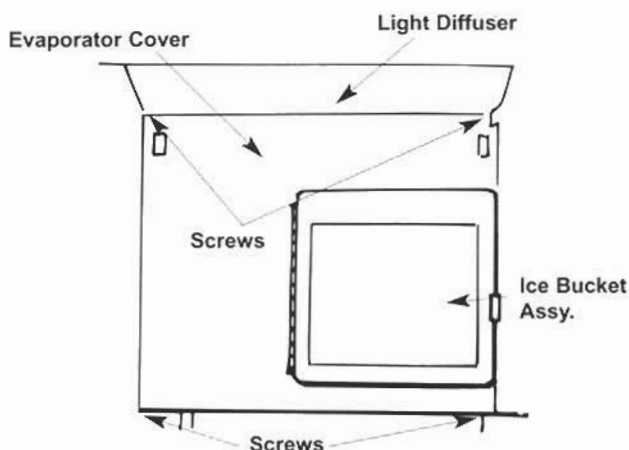

Figure 2-33. Evaporator Cover
2. Remove the top diffuser. Remove front evaporator cover held in place with two screws at the top and two screws at the bottom (Figure 2-33).